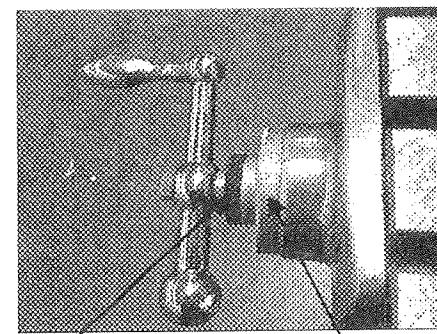

Figure 18
2. Setting hand wheel dials to zero (Fig. 18):